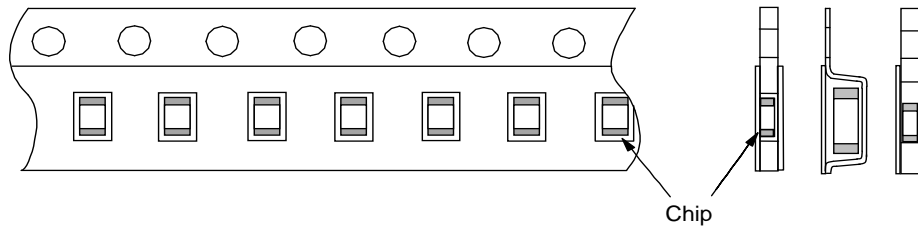

Fig.2 Dimensions of Reel
<p style="text-align: center;">Fig.2</p> <p>Speed supplied the Stress Load : 0.5mm/s</p>
1.11 Reel is made by resin and appeaser and dimension is shown in Fig 2.